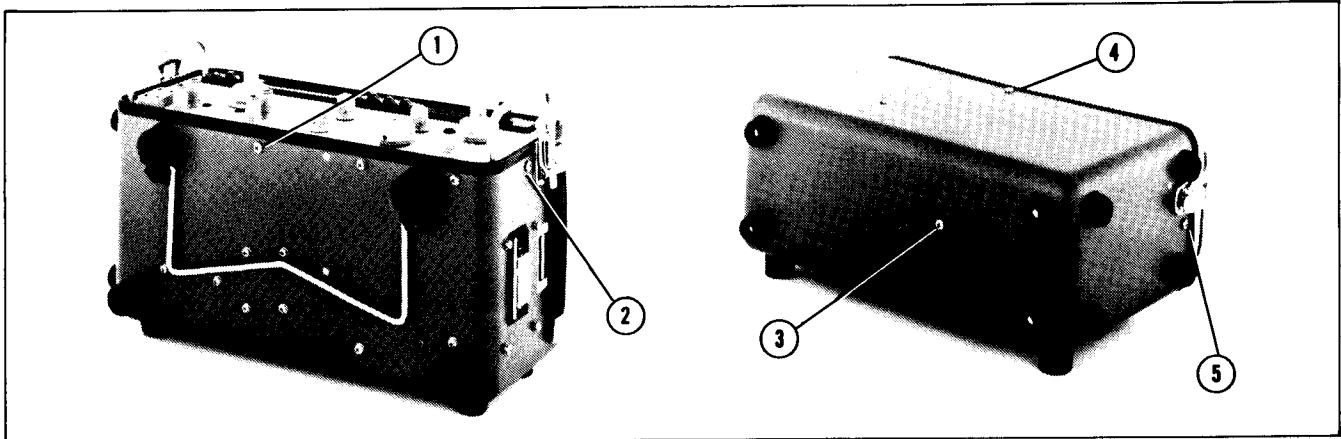

Figure 5-14. Case Disassembly.
a. To remove the case for access to the internal parts, remove the five phillips head screws shown in Figure 5-14.